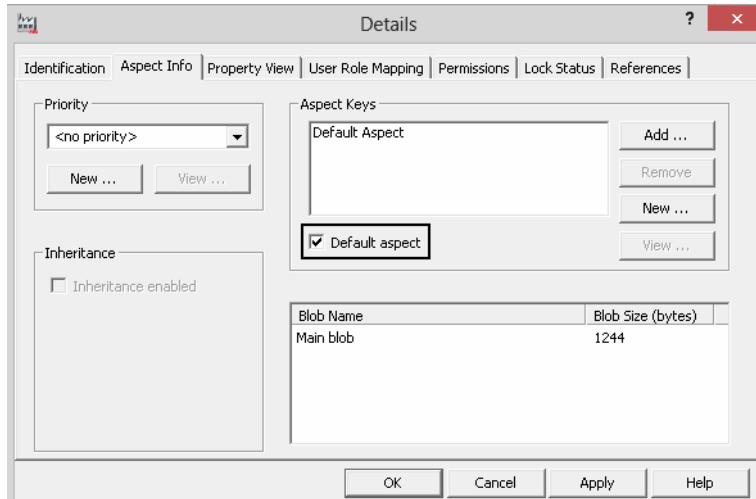

Figure 119. Aspect Info Tab
3. Select the **Default aspect** check box. See Figure 119.
2. Select the **Aspect Info** tab and click **New** in **Aspect Keys**. See Figure 119.